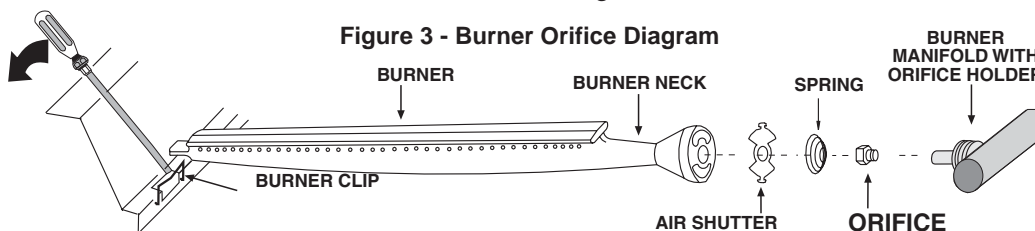

Figure 3 - Burner Orifice Diagram
**a.** After checking orifice drill size install the air shutter spring and the air shutter over the orifice holder fitting, between the burner and the pipe manifold, in the order and position shown in Figure 3.